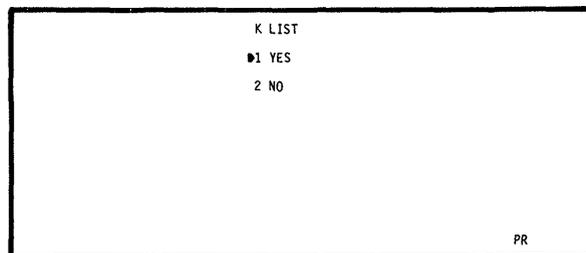
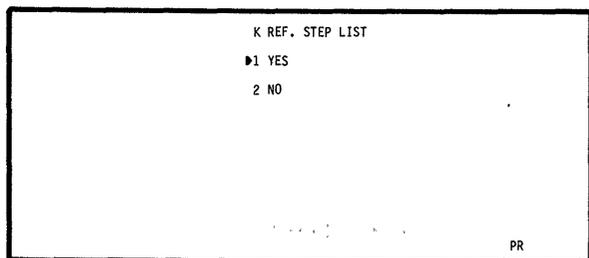

Fig. 14.17
Fig. 14.19
- Screen shown in Fig. 14.17 is displayed.
- Screen shown in Fig. 14.19 is displayed.
– Screen shown in Fig. 14.17 or Fig. 14.19 is displayed.